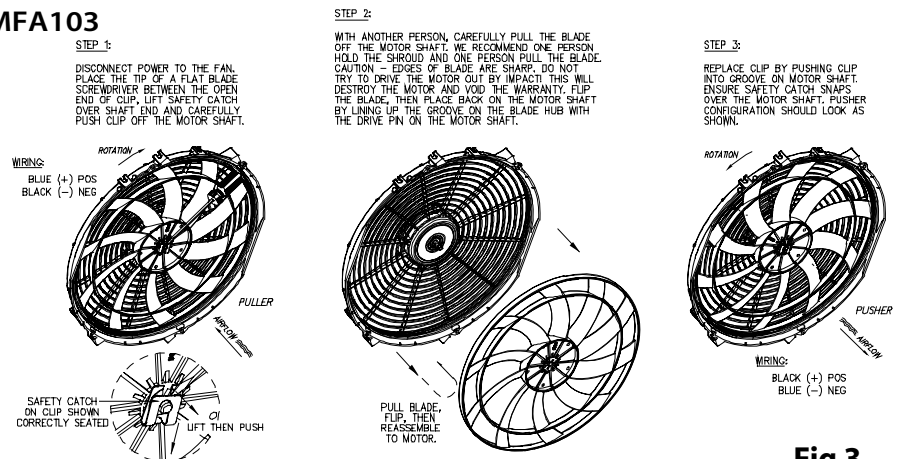

Fig 3
- The fans contained in this assembly are assembled in puller configuration from the factory. While these fans can be reversed to be pusher fans, We do not recommend using this assembly as pusher fans on the front side of the radiator due to the large amount of ram air that is blocked by the shroud. Fans used as pushers should only be used as a last resort when there are no other options for mounting. See Fig 3.